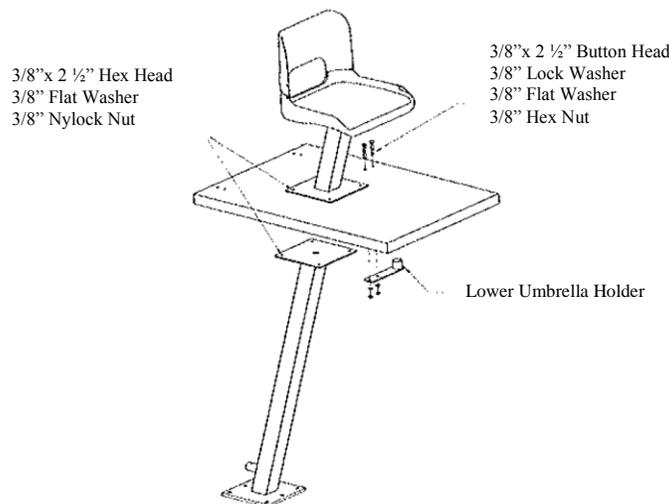

Figure 3
Step 2. Locate the Footboard and the Main Support Column. If you have not preordered the Guard Chair Anchor, it will be shipped attached to the Main Support Column. Remove the Anchor using a 3/4" wrench or socket. Instructions for setting the Anchor are included. Using the hardware shown in Figure 3 below, “sandwich” the Footboard between the Main Support Column and the Seat Pedestal. Next, attach the Lower Umbrella Holder to the Footboard using the hardware shown in Figure 3.